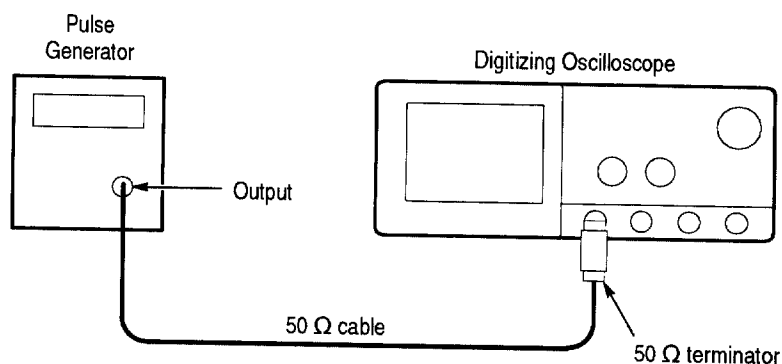

Figure 1–38: Setup for sync duty cycle test
- Connect the pulse generator through a 50  $\Omega$  cable and a 50  $\Omega$  terminator to the oscilloscope CH1 input. See Figure 1–38.
- Turn the pulse generator **OUTPUT (VOLTS)** control until the signal on the oscilloscope shows a one division negative going pulse. See Figure 1–39.